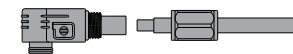

Figure 4.2-4 Put on the rubber ring
Step2: Put on the rubber ring, as shown in Figure 4.2-4.